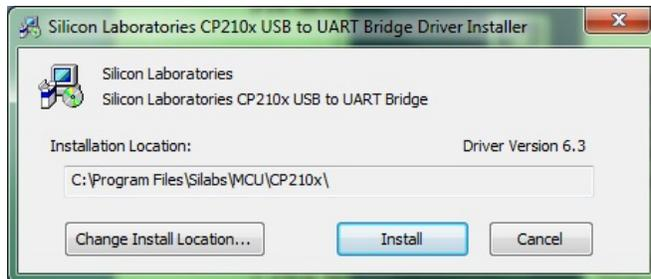

Figure 8 - USB Common Driver Install
7. Click **Install** to continue. Once the installation is complete, the **Installation Successful** message displays (see Figure 8).